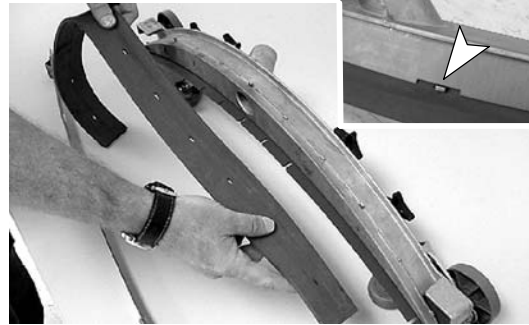

FIG. 61
3. Rotate the rear blade to a new wiping edge and reinstall the band. Make sure the notched edge of the band is facing downward (Figure 61).